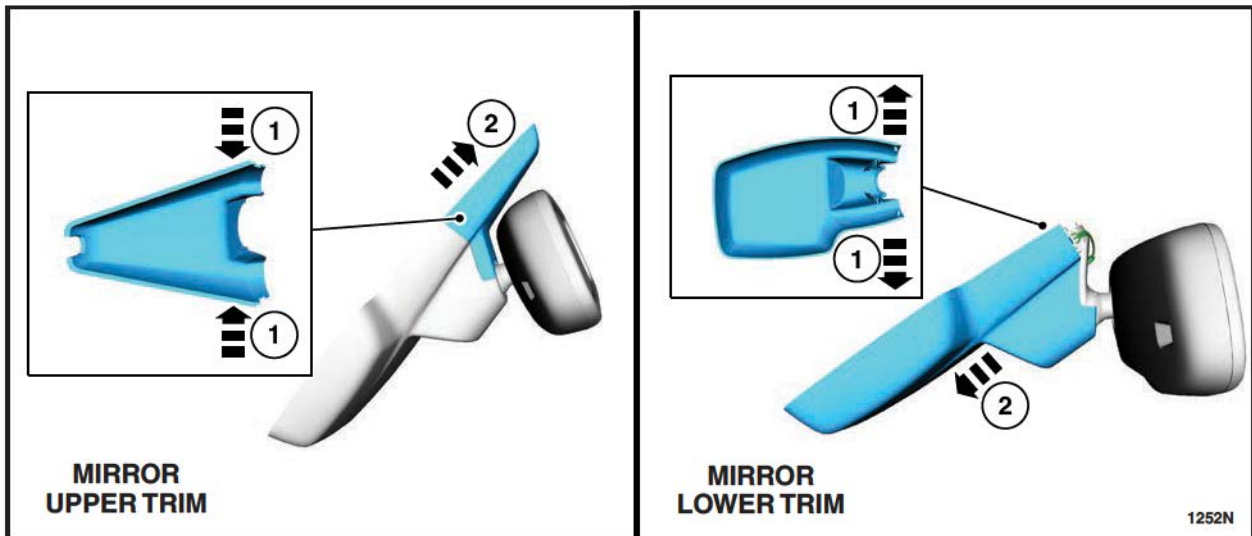

FIGURE 17
25. If equipped, remove the rear view mirror trim. See Figure 17.
7. If equipped, install the rear view mirror trim. See Figure 17.